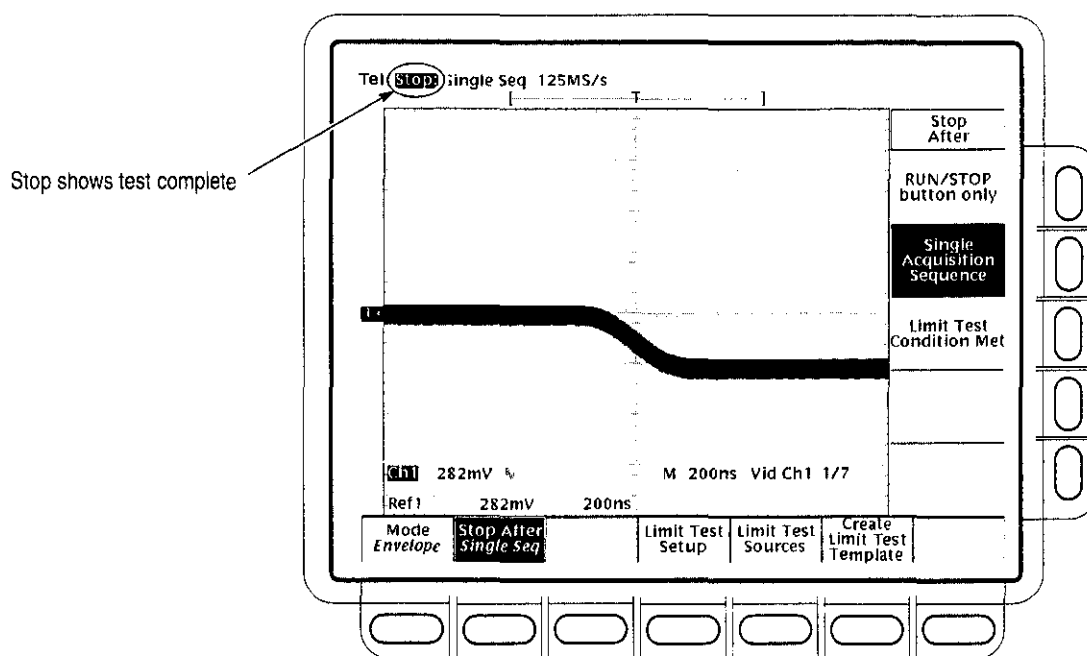

Figure 1-27: Jitter Test When Completed – TDS 684A Shown
- v. Confirm that the oscilloscope successfully makes 100 acquisitions. If not successful, the oscilloscope bell will ring. When the word **Run** in the top left corner of the display changes to **STOP**, the test is complete. See Figure 1-27.